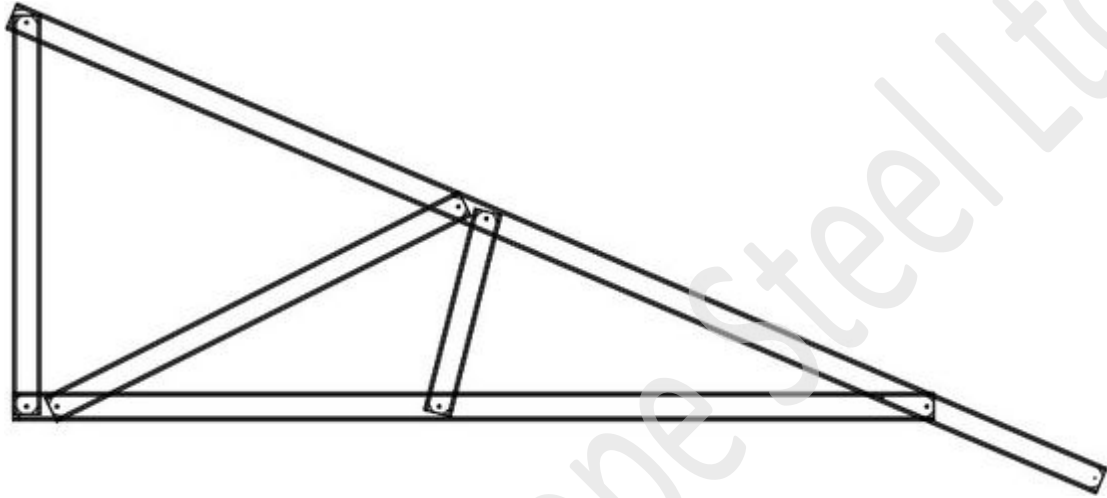

Figure 5.6 Half Truss
**5.6) Half Truss:** A triangular shaped truss with the end web fixed vertically and at 90 degrees to the bottom chord. It is commonly used to form verandah roofs on the lower floor of two storey homes. (Refer Fig. 5.6)